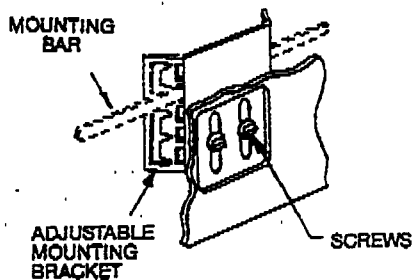

FIG. 2
- NOTE: 1. Final vertical adjustment can be made by means of MOUNTING BRACKET SCREWS (Fig.2) on side of CHASSIS.